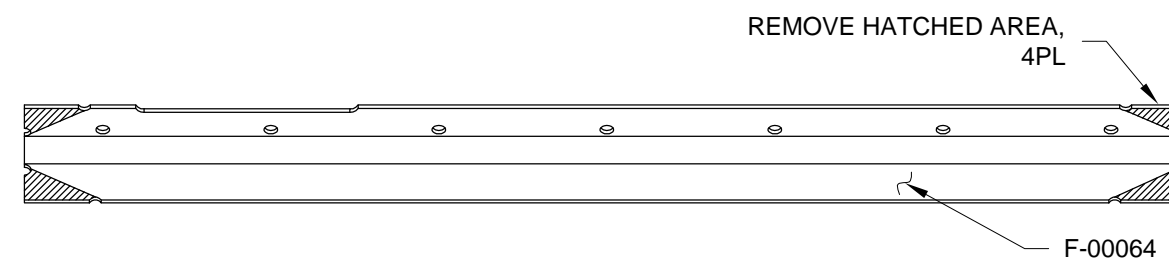

FIGURE 2: PREPARING THE STIFFENER
Step 2: Remove the hatched areas shown in Figure 2 from the F-00064 Stiffener Angle.